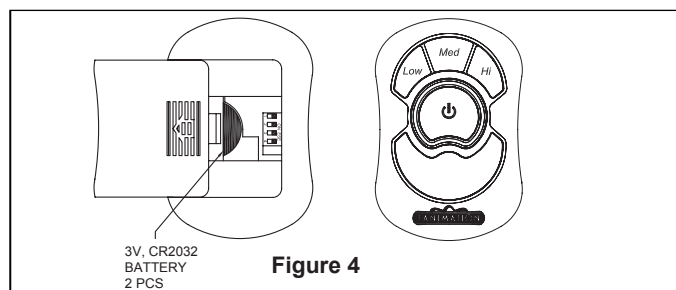

Figure 4
5. Operating & Using Remote Transmitter (Figure 4):